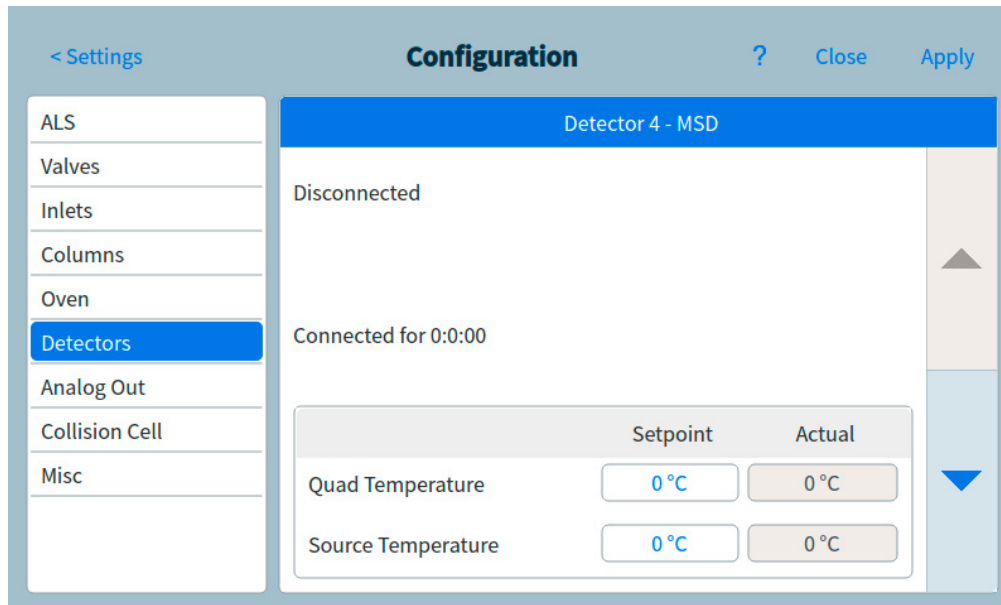

Figure 59. Detector MSD settings page
- 1 Select **Settings > Configuration > Detectors**. See **Figure 59**.